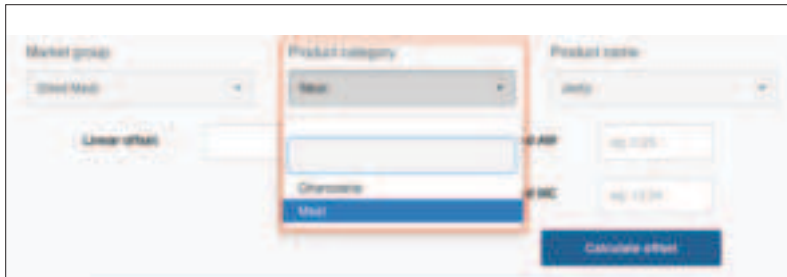

Figure 14 Product category
- c. Under Product name, select the product category that most closely matches the product being measured (Figure 14).